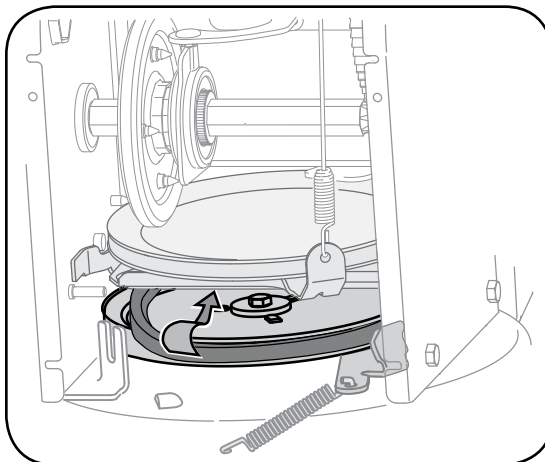

Figure 6-8
5. Remove the belt from around the auger pulley, and slip the belt between the support bracket and the auger pulley, Figure 6-8. Reassemble auger belt by following instructions in reverse order.